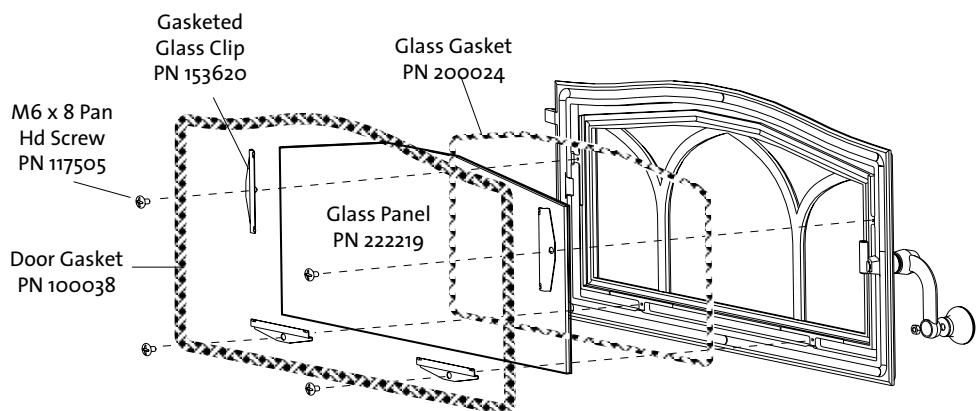

Figure 20. Replacing the door glass and gaskets.
2. First loosen and then carefully remove all of the glass clips from the inside of the door. See fig. 20.